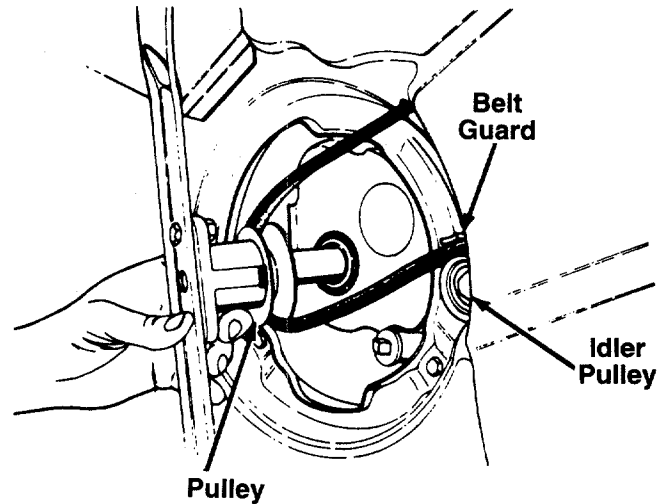

FIGURE 18.
7. Loosen (do not remove) the bolt which secures the idler pulley so you can remove the belt from between the idler pulley and the belt guard on the idler pulley bracket. See figure 18.
10. Reassemble new belt, following instructions in reverse order. Belt must be inside the belt keeper which is part of the pulley half (ref. 171 on page 14).
**NOTE:** When reassembling the transmission belt cover, be certain the belt guard on the transmission cover is approximately 1/8" away from the belt (see ref. 45 on page 13). Make certain to tighten all nuts and bolts securely. If plastic was placed under the gas cap, be certain to remove it.